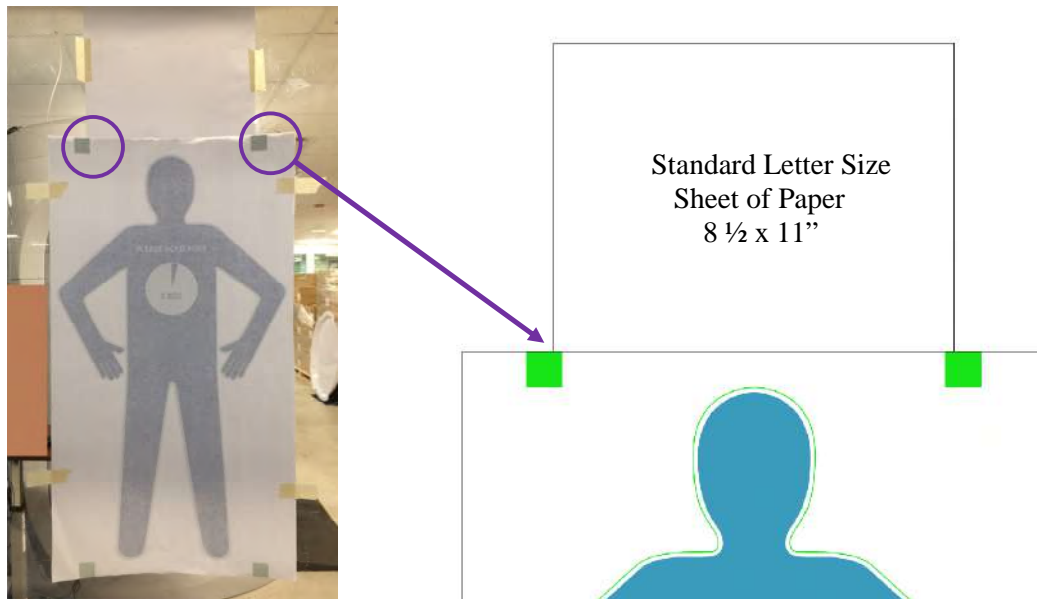

Figure 13 – Label Registration
7.9.4 Horizontally center and align the top edge of the blue man registration marks with the bottom of the paper as shown in Figure 13. The text on the decal should be readable through the transfer paper from inside the portal when placed against the radome. Use the masking tape provided with the install kit to secure the overlay as shown.